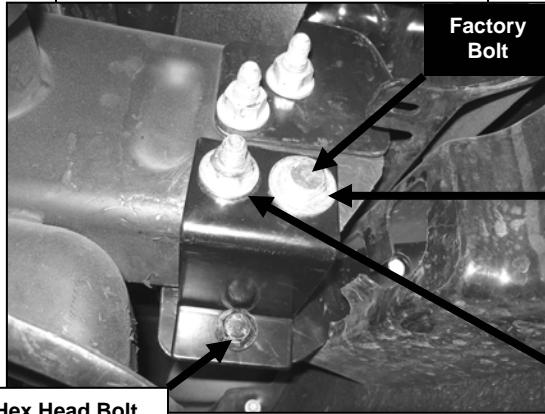

Figure 3
6. Insert (1) Bolt Plate into front of driver/left side frame rail, so threaded Bolt Plate will go through rear tow hook mounting hole (Figure 3). **NOTE:** On the driver/left side, the Bolt Plate will mount to inner side of frame rail. On the passenger/right side, the Bolt Plate will mount to the outer side of frame rail.
7. Position (1) Frame Bracket on the inner side of driver/left frame rail and through already inserted Bolt Plate. Secure Frame Bracket using (1) 12mm Flat Washer and (1) 12mm Nylock Nut (Figure 3). Do not tighten at this time.